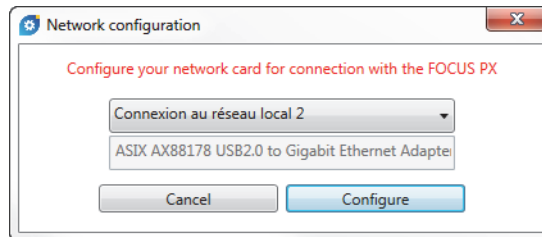

Figure 1-17 Network configuration dialog box
3. In the **Network Configuration** dialog box, select the network card that will be used to communicate with the FOCUS PX unit, and then click **Configure** (Figure 1-17 on page 36).